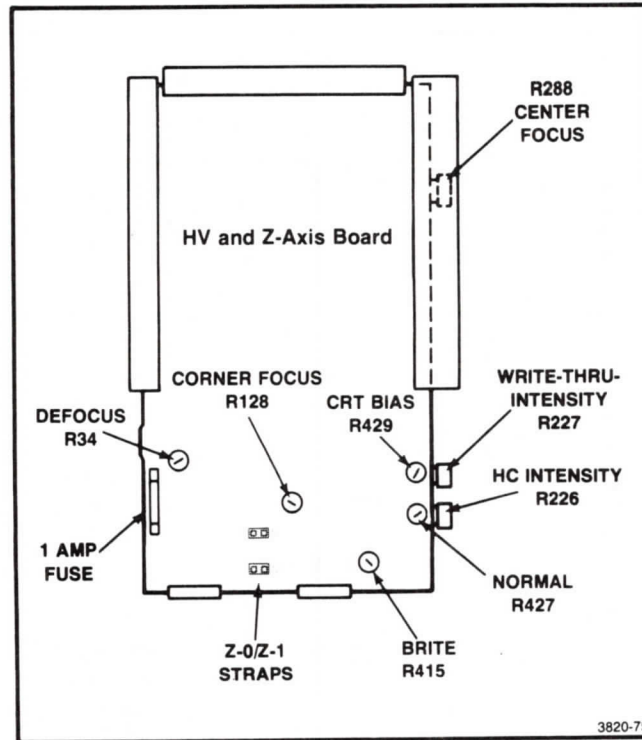

Figure 10-10. High Voltage and Z Axis Board Straps and Adjustments.
10. On the HV & Z-Axis board, make sure that the two Z-Axis jumpers are moved to the Z-0 position (inner position). Also, make sure that the board has a 1 A fast blow fuse in place. The location of these two jumpers as well as the potentiometer adjustments is shown in Figure 10-10.